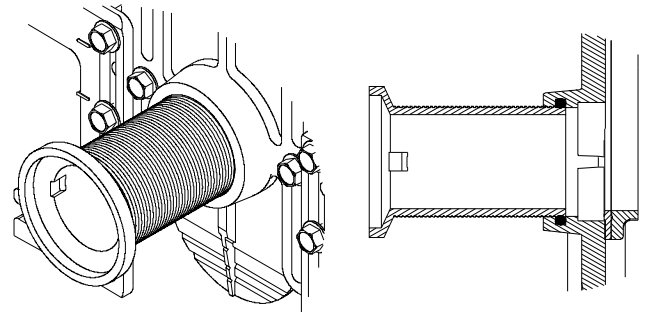

Fig. 10
- a. Standard, -CS, and -CC Couplings - Thread the coupling into the faceplate by hand until it engages the o-ring and begins to resist. Using a coupling wrench (Z1200-CPLG-WRNCH-3 purchased separately), continue to turn the coupling into the o-ring to create a water-tight seal. See Fig. 10
- b. EZ-Set™ Coupling - Thread the coupling into the faceplate by hand until it engages the o-ring and begins to resist. Using a strap or pipe wrench, continue to turn the coupling into the o-ring to create a water-tight seal. Ensure the protective sleeve is flush with the test cap. See Fig. 10 & 10b